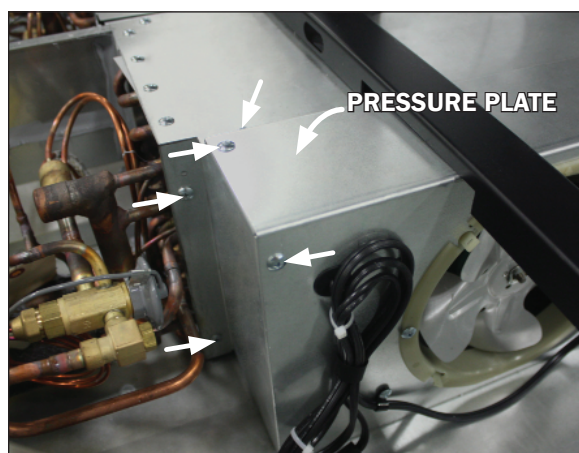

Fig. 13 Pressure plate screw locations
3. Once the support brackets are removed the underside of the fans can be accessed by removing the screws on the back, top and front sill of the pressure plate cover (Fig. 13). Lift the pressure plate with help of the provided lift handles (Fig. 14). **Note: It is recommended that more than one person lift the pressure plate.**